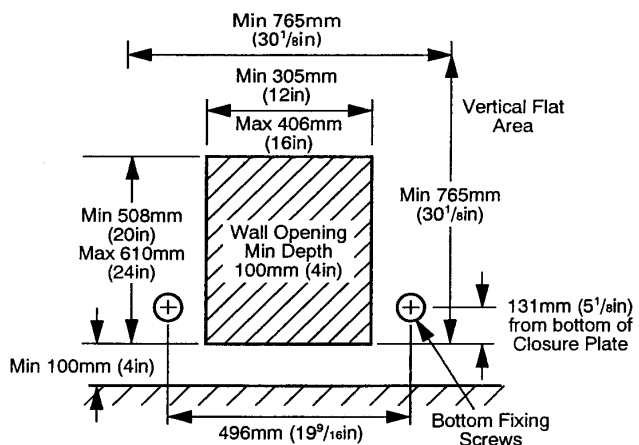

Fig. 4 Wall Fixing
- (d) **Wall Fixing:** The fire may be fitted on to a suitable non-combustible wall so that the bottom of the rear legs is not less than 100mm (4in) above the finished floor level (Fig. 4).
- (c) Mark the position of the bottom two fixing screws then drill and plug the wall (Fig. 4).